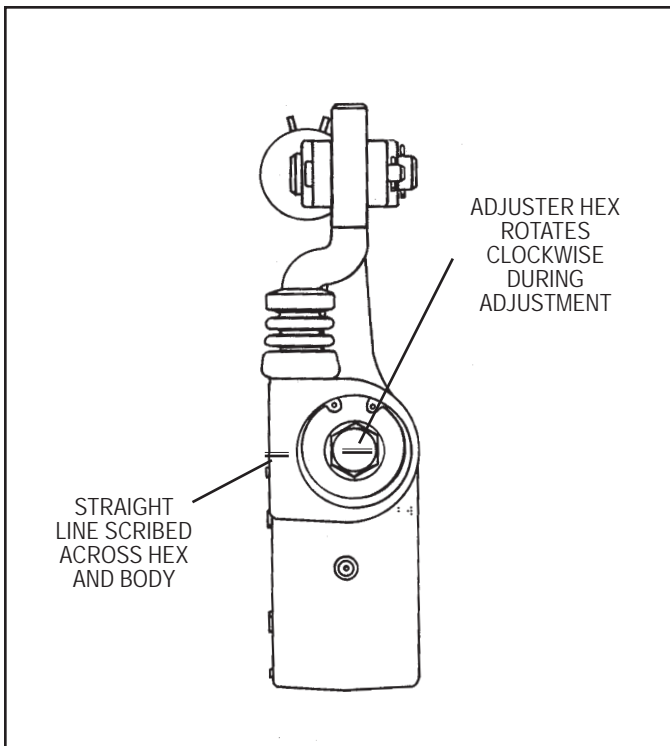

FIGURE 7 - TESTING ADJUSTER MECHANISM
2. Using a straight edge, scribe a line across the manual adjustment hex head and slack adjuster body. (Refer to Figure 7).